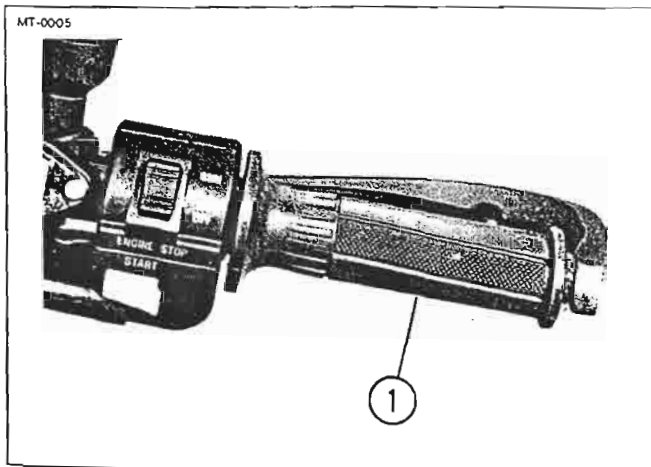

Figure 2-16. Throttle Control
See Figure 2-16. Twist throttle control grip (1) backward to full open position and release. Check that throttle control closes quickly and completely.